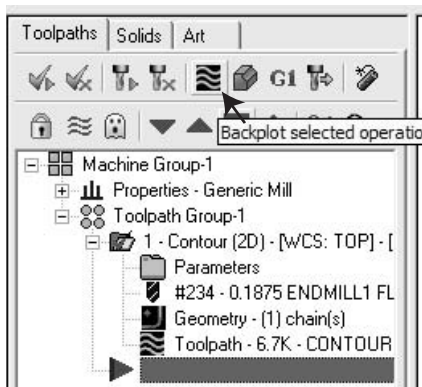

Figure 28 Backplot
- ***From the Operations Manager pane, select the backplot button*** (at the middle of the button bar), as shown in Figure 28. Be sure that the Contour (2D) folder has a green check mark on it before proceeding. If it does not have a green check mark on the folder, choose “Select all operations” from the button bar and then select “Regenerate all selected operations”